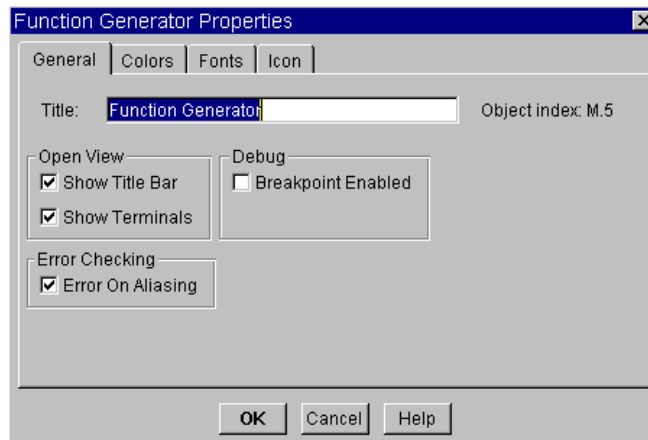

Figure 1-12. Changing the Title of an Object
1. Open the object menu and select `Properties...`. A Properties dialog box appears with the current title highlighted, as shown in Figure 1-12.